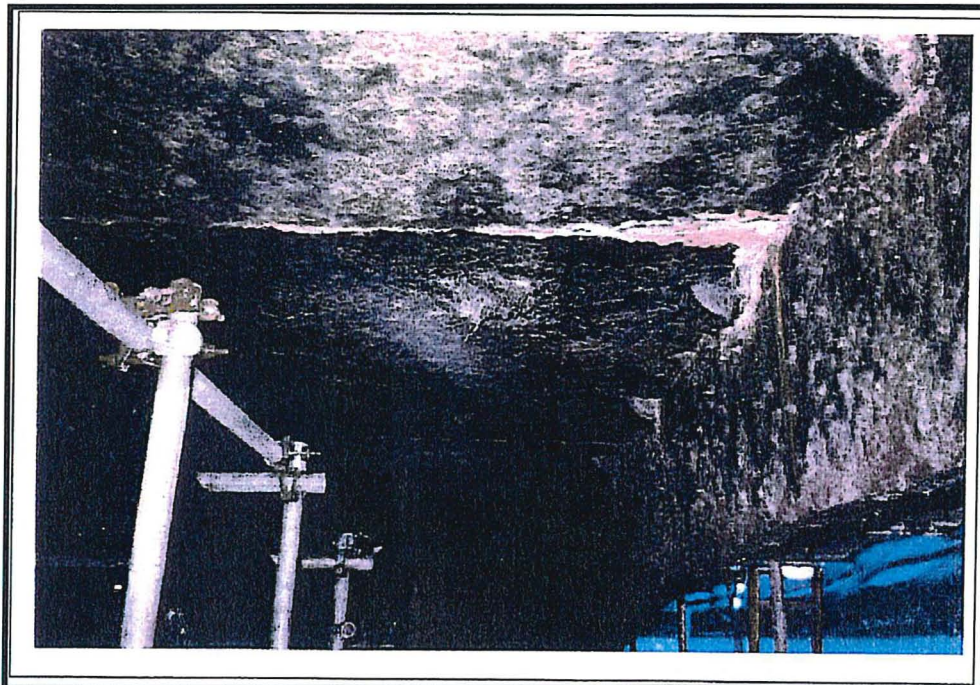

Figure 1.1 Corrosion to the soffit
- 1.6 In view of the difficult access to the soffit and internal arch ribs it is believed that the underside was not painted or at most poorly painted in 1965. As a result the soffit and internal ribs have suffered extensive surface corrosion and are in poorer condition than the rest of the structure (see figures 1.1 and 1.2).